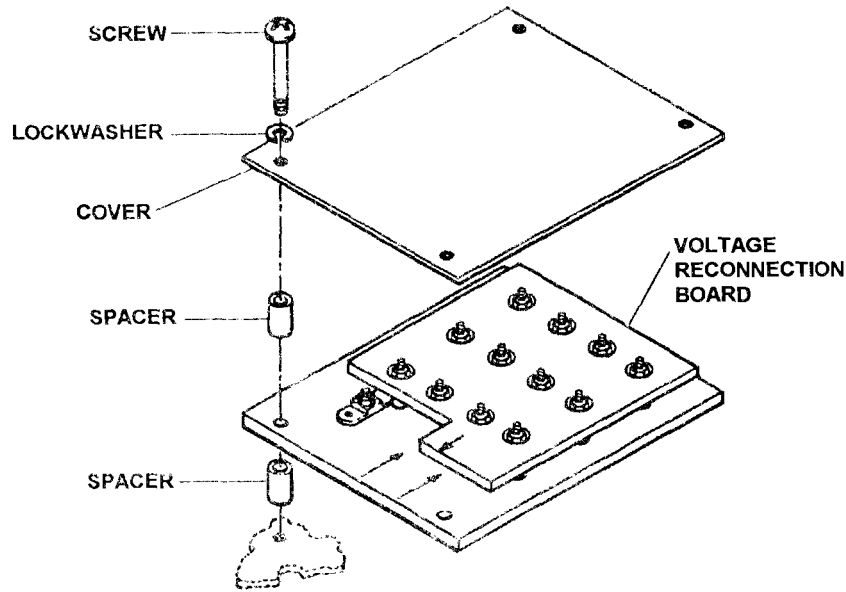

Figure 4-45. Voltage Reconnection Board, Removal and Installation
- (1) Remove screws and lockwashers to remove voltage reconnection board and spacers.
- (2) Tag and disconnect electrical leads to voltage reconnection board assembly (Figure 4-45).
- (1) Install voltage reconnection board (Figure 4-45), spacers, lockwashers, and screws.
- (2) Connect electrical leads to voltage reconnection board assembly.